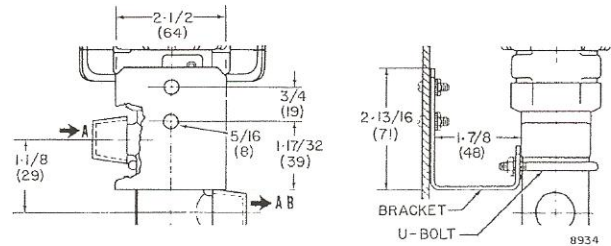

Fig. 1. Bracket No. 313827A Dimensions in Inches (Millimeters).
1. Mounting bracket No. 313827A (ordered separately) may be used for internal mounting of the 3/8-inch (nominal) valve as shown in Figure 1.